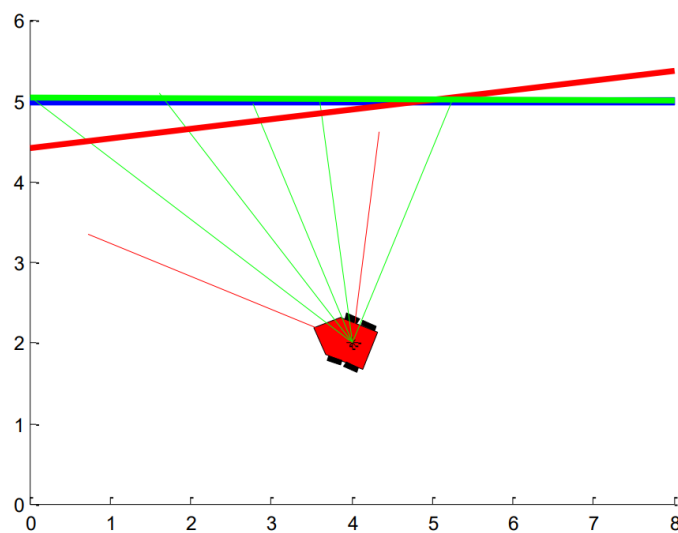

Figure 2: RANSAC Wallfollower showing least squares (red) and RANSAC solutions (green).
6. Also, for both the LS and RANSAC wall followers, redraw the new wall as shown in Figure 2 where the actual wall (blue), RANSAC wall (green) and LS wall (red) are all shown.